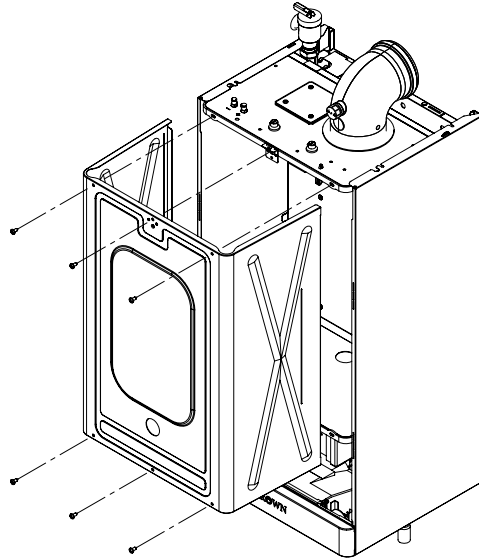

Figure 12.5: Inner Cover Removal
- a) Remove the inner cover (figure 12.5). Note: this is necessary in order to read the manifold pressure accurately because the gas valve regulator is referenced to the burner area.